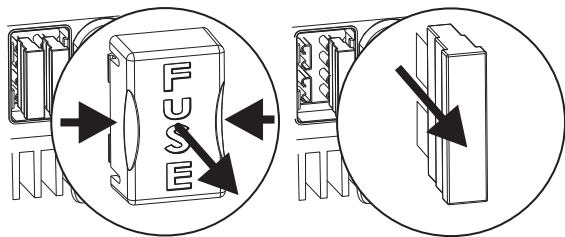

Figure 2
- Be sure that the output of the supplying source (battery) is switched off during installation. Also be sure that no consumers are connected to the battery during installation, to prevent hazardous situations. Remove the fuse cover and fuse(s) (figure 2).